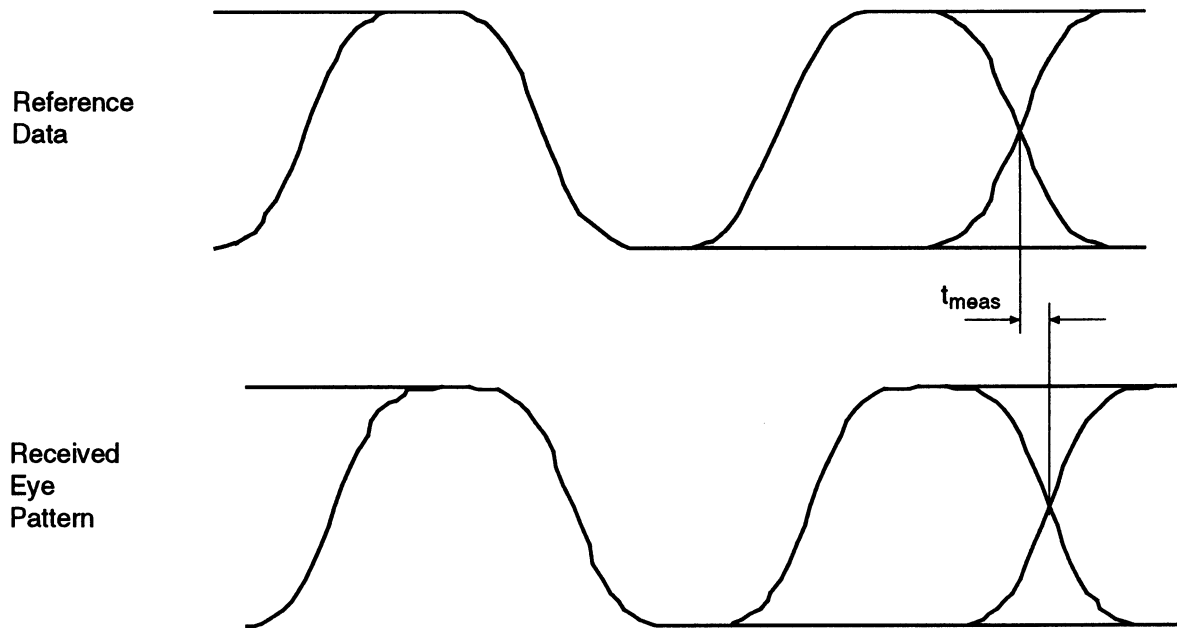

Figure 40. Four-Level Time Delay Measurement #2
Step 36. Adjust the scope timebase so you can observe one “X” (zero cross) on each scope trace. See Figure 40. The scope timebase should be set to about 20 $\mu\text{s}/\text{div}$.
Step 37. Measure the time delay between the two eye patterns (see Figure 40).
Step 40. Repeat steps 37-39 until the two scope traces are in perfect alignment (within 2.6 μs of one another). Refer to Figure 40.